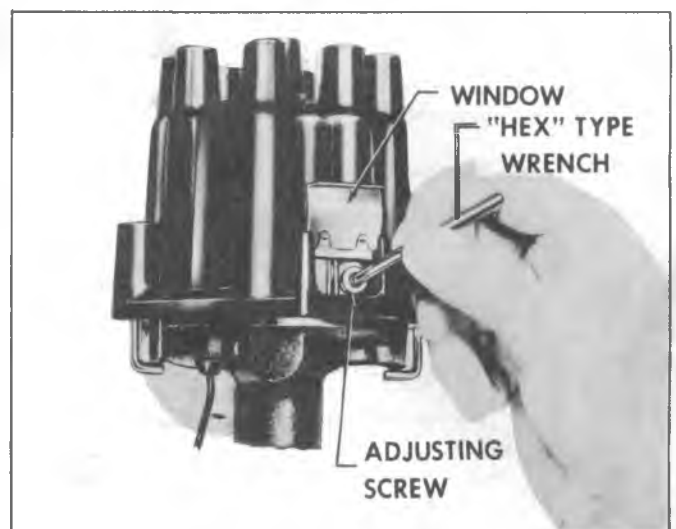

Fig. 9i—Adjusting Dwell Angle
With the engine running at idle and operating temperatures normalized, the dwell is adjusted by first raising the window provided in the cap and inserting a "Hex type wrench into the adjusting screw head (fig. 9i).
- b. Turn the adjusting screw (fig. 9i) to set the dwell angle to 30 degrees.
- c. Turn the adjusting screw clockwise (fig. 9i) until the lamp lights, then give the wrench 1/2 turn in the opposite direction (counterclockwise) to obtain the proper dwell angle.